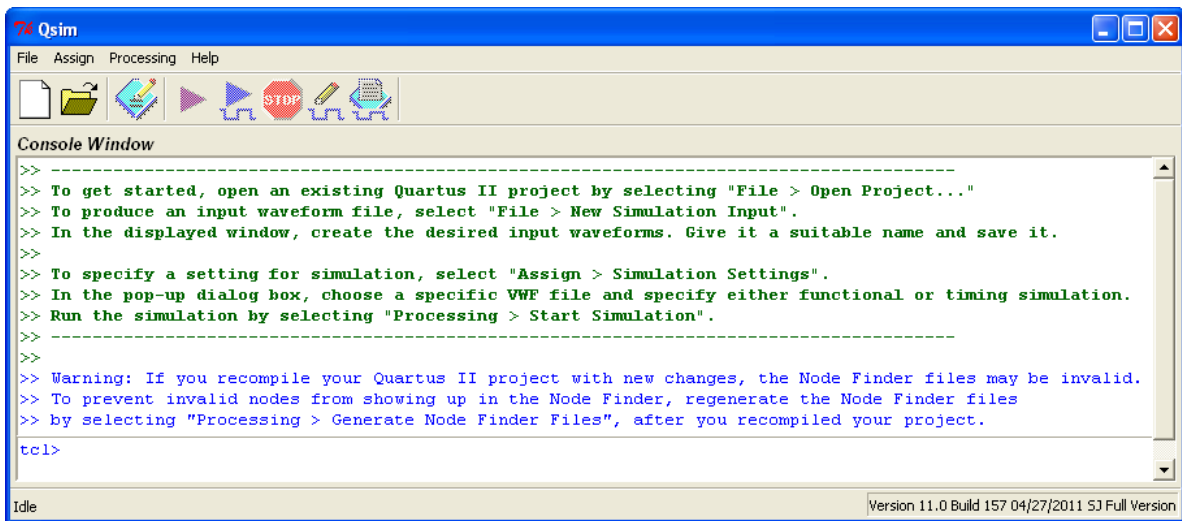

Figure 28. The QSim Window.
1. Select Start > All Programs > Altera > University Program > Simulation Tools > QSim to open the QSim tools, which will display the window in Figure 28.